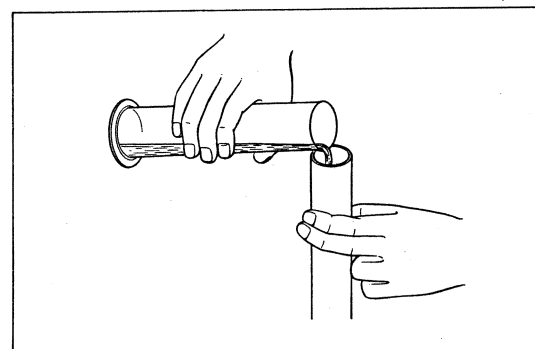

Fig. 43
- 6) Pour the specified amount of HONDA automobile automatic transmission fluid oil in the front fork. (Fig. 43)